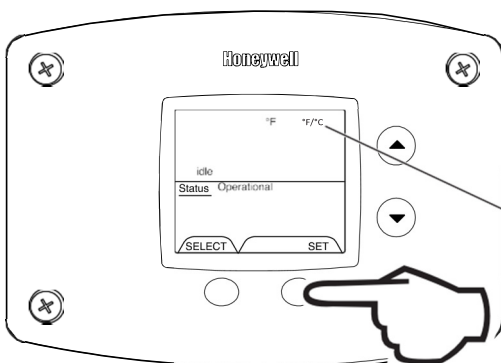

Fig. 55
2. Press 'Set' button to change temperature format. '°F/°C' symbol will flash in the water heater display (Fig. 55).